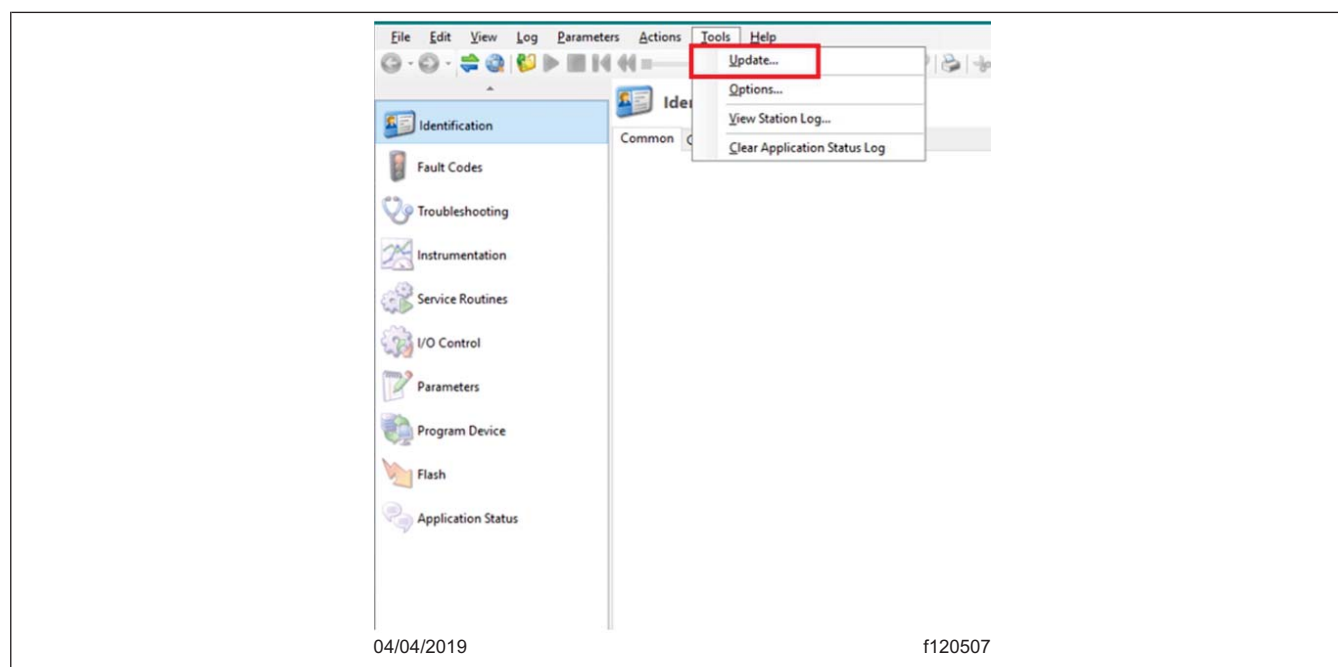

Fig. 1, Updating DiagnosticLink to the Latest Version
3. Connect the vehicle to DiagnosticLink. Make sure that DiagnosticLink is updated to the latest version, 8.11SP4, or newer. To update DiagnosticLink, select "Update" from the dropdown menu under "Tools." See Fig. 1.